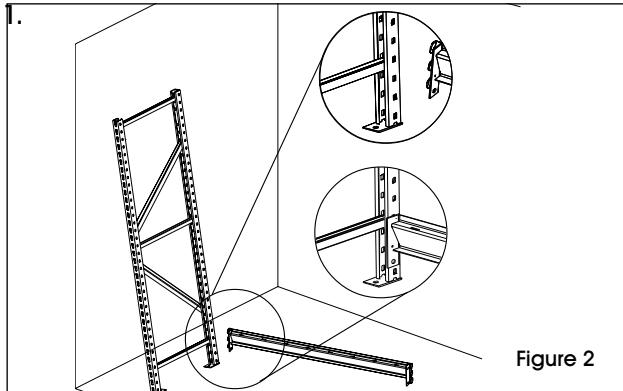

Figure 2
2. Attach the shelf beams by hooking them into the holes in the front and back of the upright. (See Figure 2)